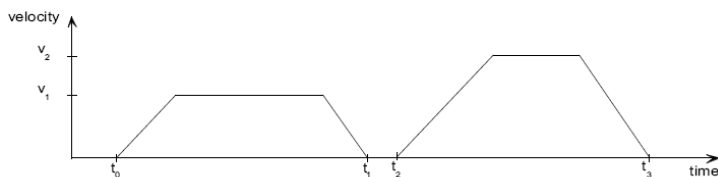

Fig. 6.5 Single set-point
Once the setpoint has been transmitted to the drive the Master activates the positioning by setting the bit 'new set-point' in CONTROLWORD (2). After recognizing and saving the new data the drive responds by setting the bit 'set-point acknowledge' in STATUSWORD (3). Now the Master can delete the bit 'new set-point' (4). After this the drive signalizes that a new setpoint is accepted by deleting the bit 'set-point acknowledge' (5). In Fig. 6.5 the mechanism triggers a speed "0", after reaching the target position within time t_1 . The next target position to be reached within time t_2 can be triggered after the message that the target position has been reached.